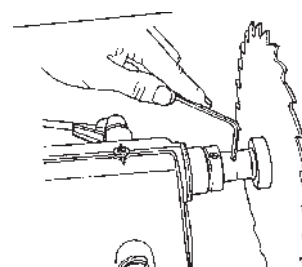

Figure B-86
- 63. Use the 5/32" Allen wrench to loosen the arbor set screw. Remove the saw blade. See Figure B-86.